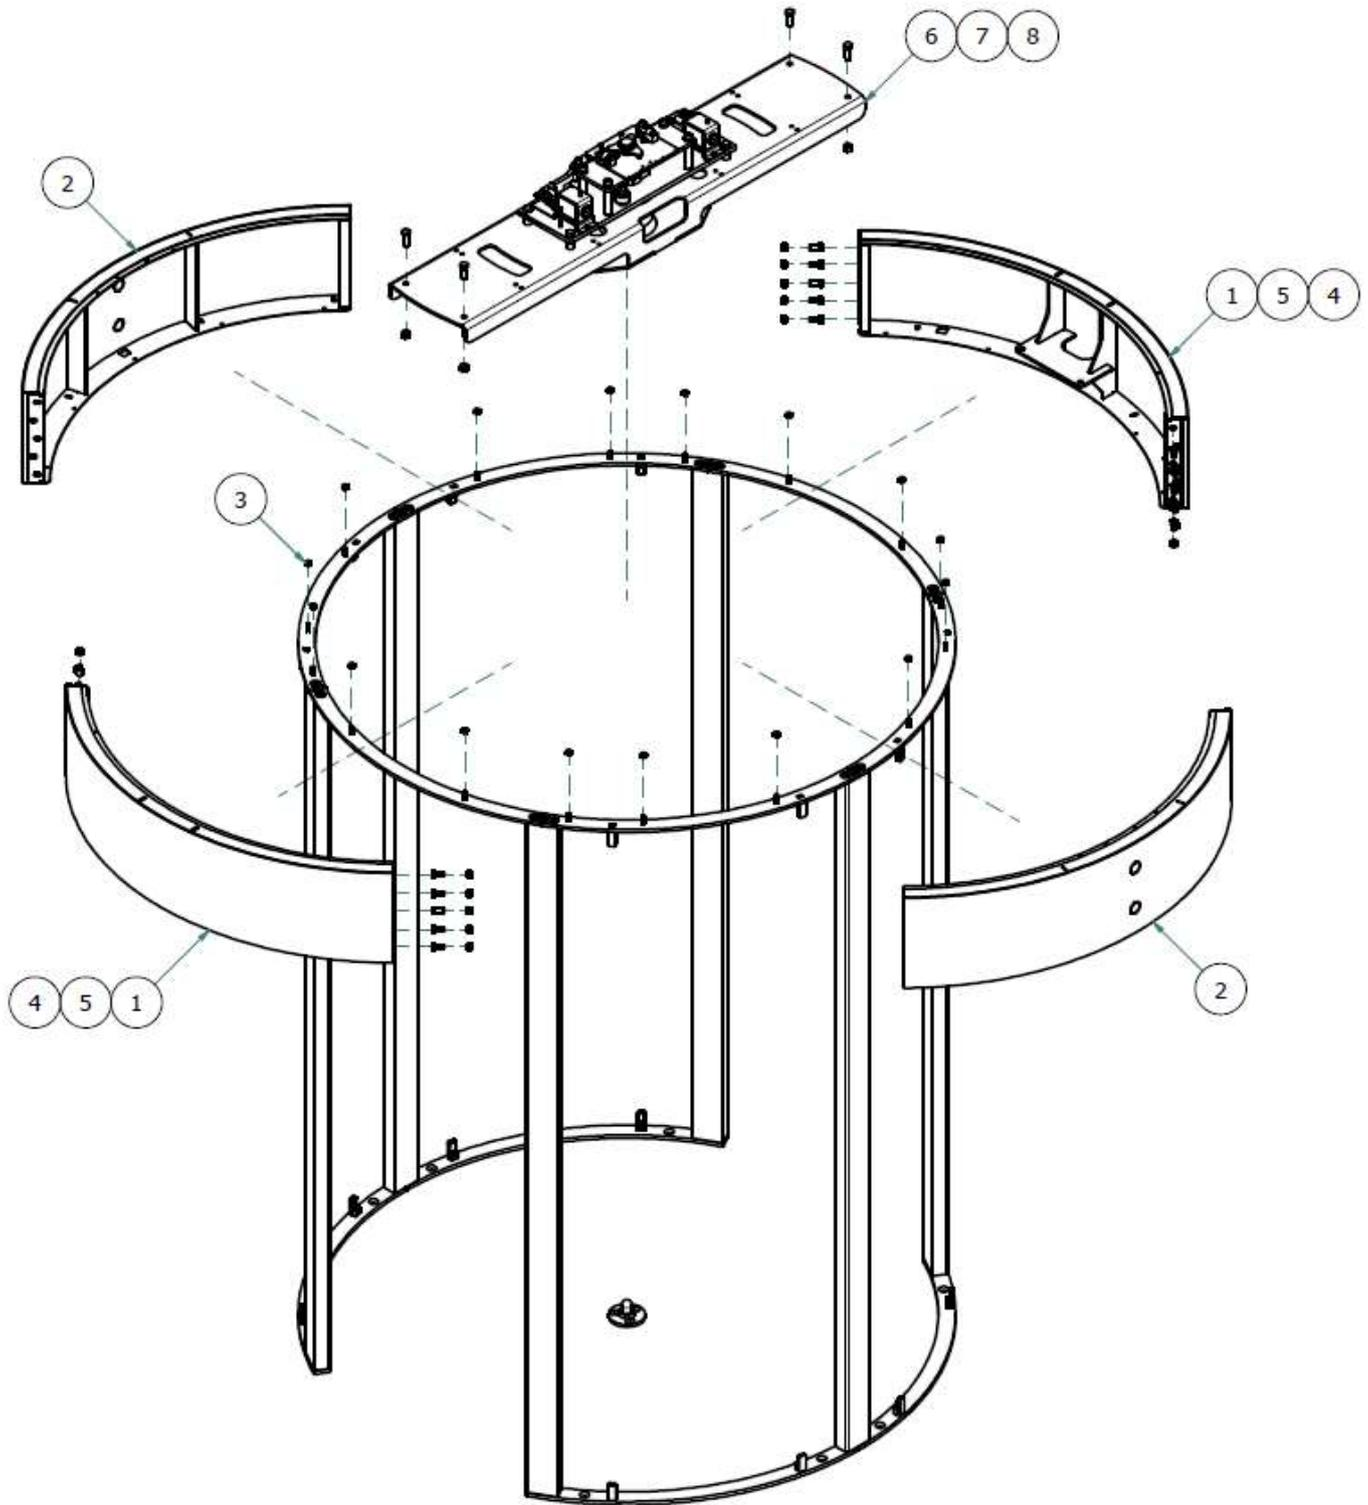

Figure 11: STEP 3 - Crown & Drive channel assembly
- 5.9. Place the Crowns on the studs as shown in *Figure 11* and, using a pair of M10 hex set screw and Hexnut, tighten on the sides. Ensure that the joints between the crowns are flush on the circle.